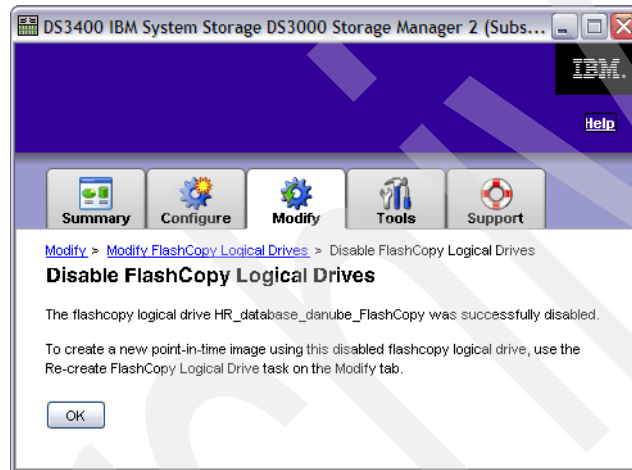

Figure 11-38 Modify - disable FlashCopy logical drive successful
4. When the operation is complete, you will see a message similar to Figure 11-38. Click **OK**.